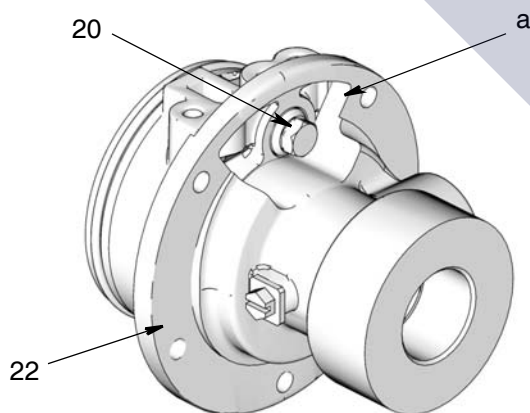

Fig. 12
1. Install new o-rings and seals in bottom cover (14) and flange (22) as described in the Throat and Piston Seal Replacement Kit 24H854, page 11. Be sure to apply a thin coat of water-resistant grease to all o-rings and seals.
2. Align pilot valve (20) installed in bottom cover with opening (a) in flange (22) as shown in Fig. 12. Compress the bottom cover (14) and flange (22) together.